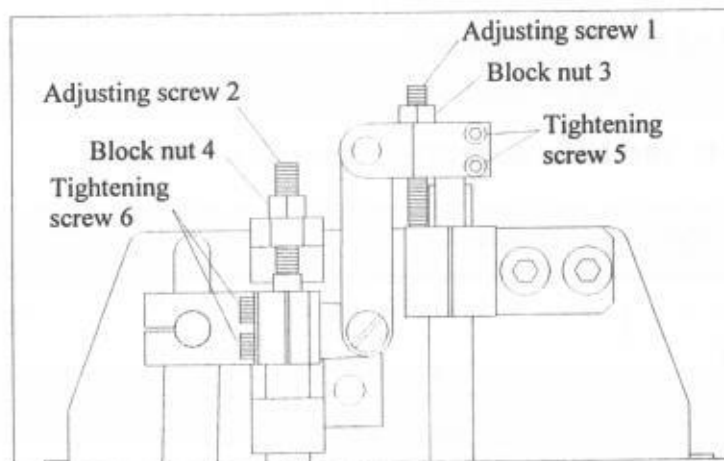

Fig.8
4.6 The presser foots height adjustment (Fig.8)